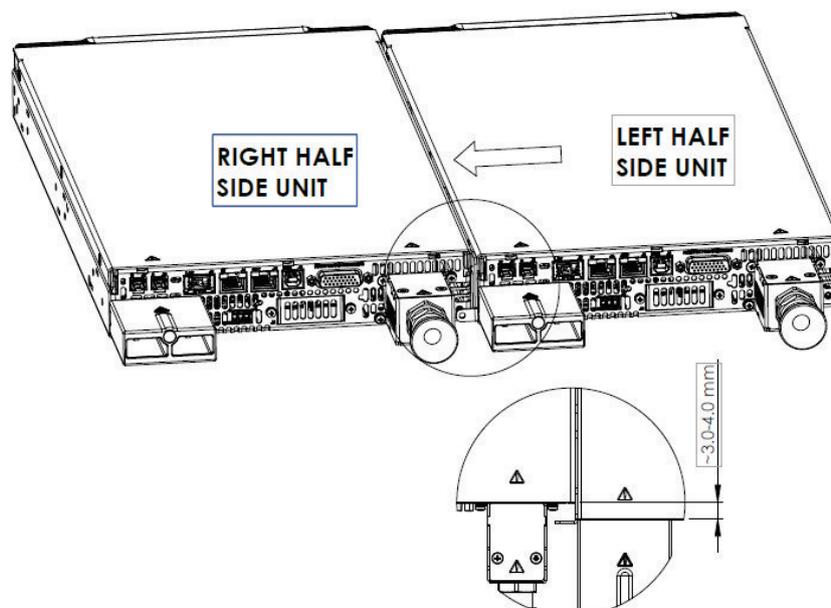

Figure 4-8: Assembly
4. Assemble the right half side unit to connection bracket as shown in Figure 4-8.